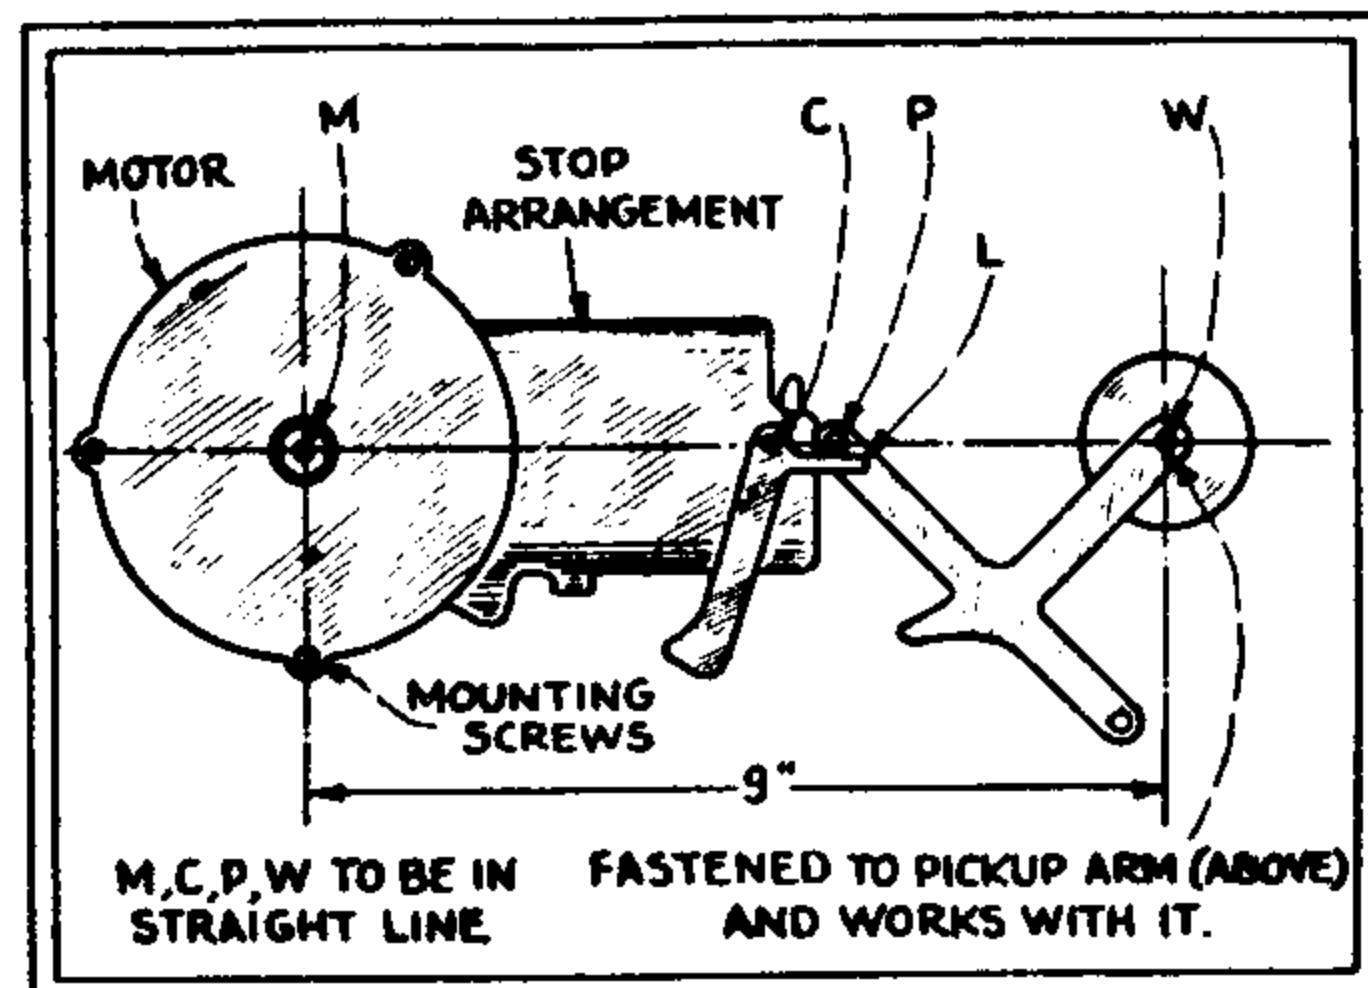

Fig. 6
unusual stopping arrangement, which sometimes gets out of order; it works in conjunction with the pickup arm. When the arm is swung away from the turntable, as far as it will go, the switch is closed, and the motor will function. At the end of each record, whether the eccentric groove is present or not, the table will turn a number of times and then stop; this is due to the opening of the switch and the application of the automatic brake lever. If the turntable does not stop when the record is finished, or if it stops before the record is ended, it will be necessary to remove the motor board. Disconnect all wires running to it; that is, the A.C. motor plug, the ground wire, and the three leads from the pickup to the connection strip at the rear of the cabinet. Lay the motor board in a convenient position, and measure the distance from the center of the turntable's spindle to the center of the mounting screw of the pickup arm. This should be exactly 9 inches; and the measurement must be made accurately, for a discrepancy of a fraction of an inch will cause one of the complaints above mentioned. To permit of adjustment, the mounting holes for all parts have purposely been made large. It will be necessary to check the alignment of the centers of lever arms and motors; these must be in a straight line—(M), (C), (P), (W) (See Fig. 6.) Loosen the screws, bring the points into a straight line and see that the centers of (M) and (W) are exactly 9.00 inches apart. It is important that the pin (P) shall slide freely along the long edge of the lever (L). The screws may then be tightened, and the motor board replaced and reconnected.